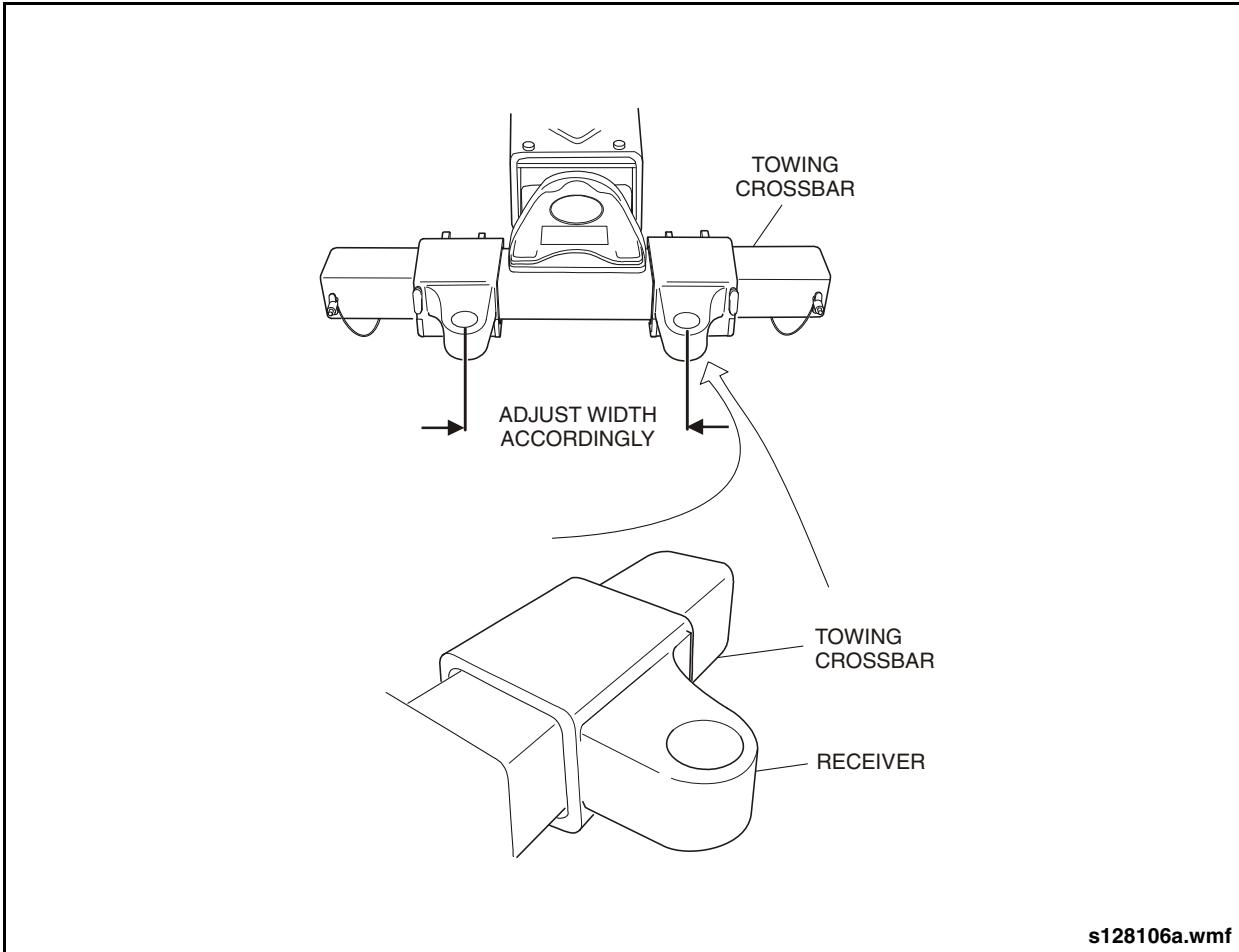

Fig. GI-24: Lift Receiver Installation
2. Install the lift receivers onto the towing vehicle crossbar and slide into position so that they align with the towed vehicle lift adapters. See "Fig. GI-24: Lift Receiver Installation" on page 49.